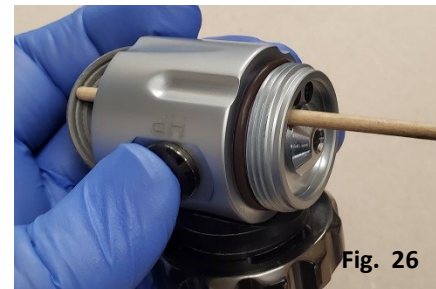

Fig. 26
13. At this point, if diaphragm removal has not been possible, use a 1/8” dowel to push the diaphragm free through one of the three bores in the regulator body (Fig. 26). Then remove the valve lifter. If the valve lifter does not fall out, wait until Step 18 below.